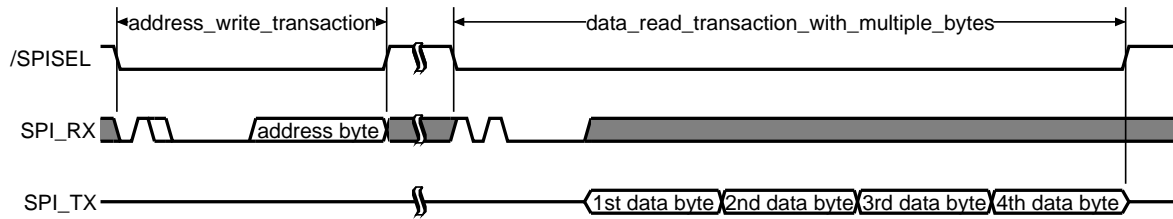

Figure 2.19: Register read access with a 40 bit transaction
3. Another way of reading multiple bytes from the same register is available with the 40 bit read transaction (Figure 2.19). With the first transaction (16 bits) the SPI master specifies the register address (control byte is '01X0 CCCC'). Afterwards, four register values are transferred from XHFC-1SU to the SPI master (control byte is '1010 0000').